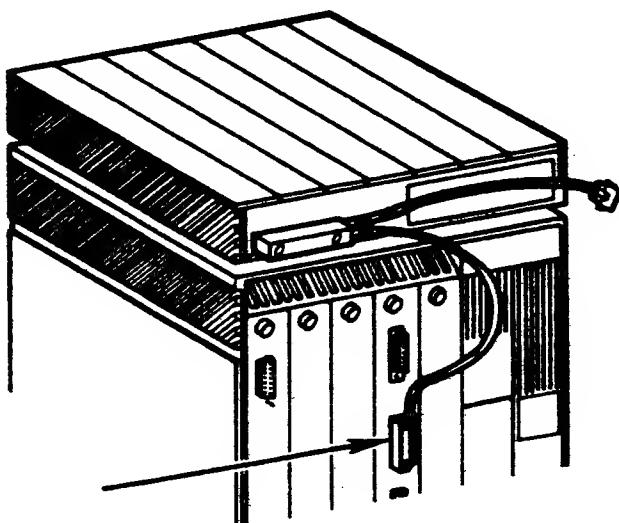

Figure 2-21. Connecting Cable to C4 Circuit Board
- 4. Connect the appropriate end of floppy disk drive cable to the C4 circuit board as shown in Figure 2-21.**